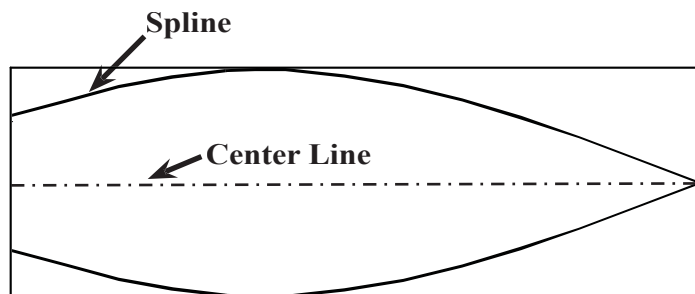

Fig. 5
Step 2. Click the spline and press ENTER, **Fig. 5**.
Step 4. Click the center line, **Fig. 5**.